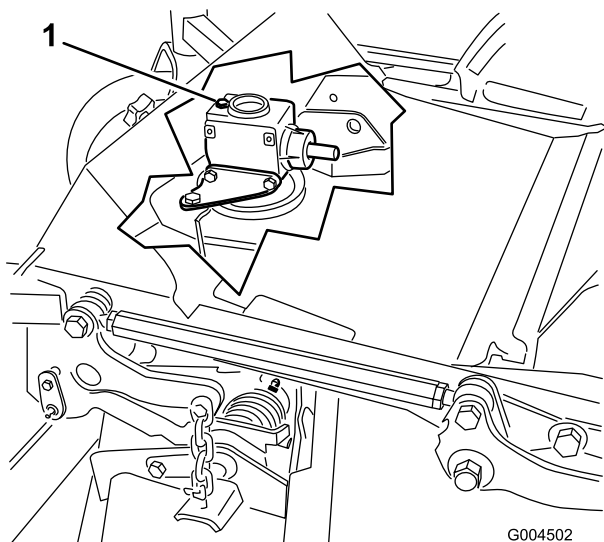

Figure 40
- Remove the dipstick/fill plug from the top of the gear box (Figure 40) and make sure that the lubricant is between the marks on the dipstick.
- Remove the dipstick/fill plug from the top of the gear box (Figure 40).